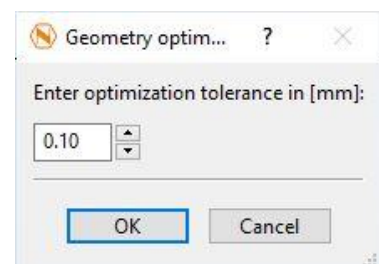

Figure 92
3. As shown in Figure 92 the default value of 0.1mm for the optimization tolerance is fine.